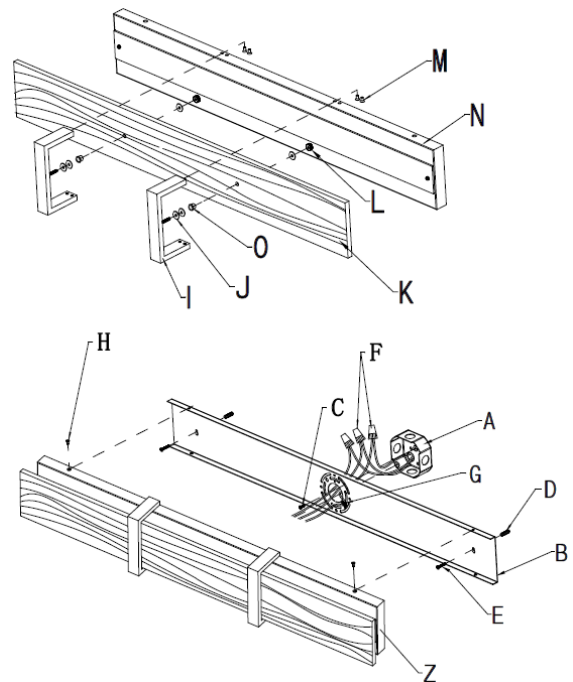

Fig.2
CONNECTING THE WIRES (FIG. 2)
7. At this point, connect the electrical wires as shown in Fig. 2, making sure that all wire connectors are secured. If your outlet has a ground wire (green or bare copper), connect the fixture's ground wire to it. Otherwise, connect the fixture ground wire directly to the mounting plate (B) using the green screw (G) provided. After wires are connected, tuck them carefully inside the junction box.